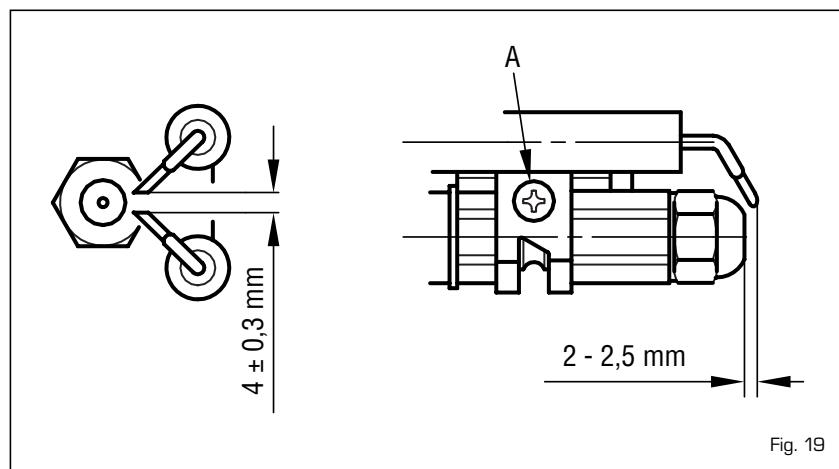

Fig. 19
4.5.2 Cleaning combustion head (fig. 19)
- Loosen the fixture screw (A fig. 19) of the electrodes support and remove it.